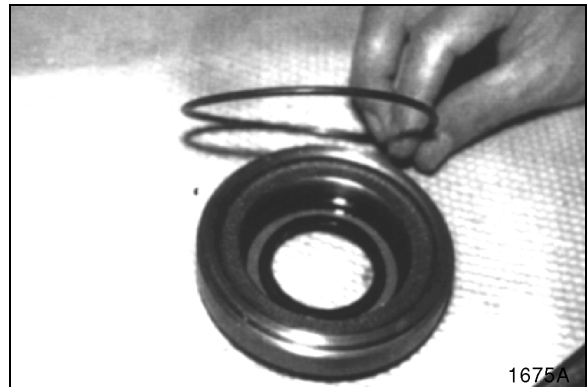

Figure 81
4. Install O-ring on oil seal. See Figure 81.